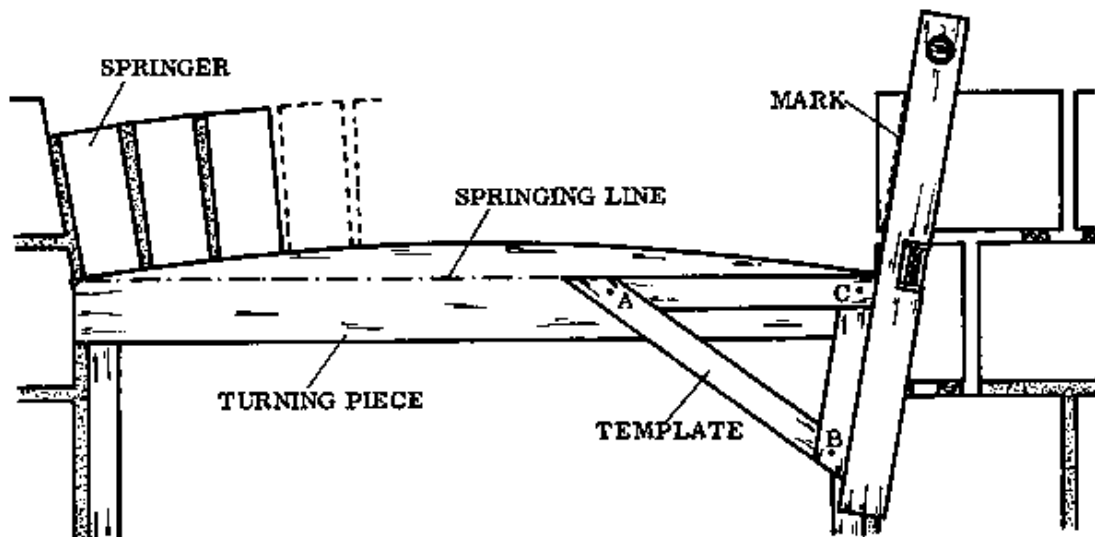

Fig. 2
- USE OF THE TEMPLATE: The outside edge measuring 50 cm (side b) is held along the springing line, while the tip of the corner C is at the springing point (Fig. 2). The direction of the shortest side (side a) extended upwards with a straight edge gives the slope of the skewback. To mark the skewback on the other side, the template is simply turned around and the procedure is repeated.